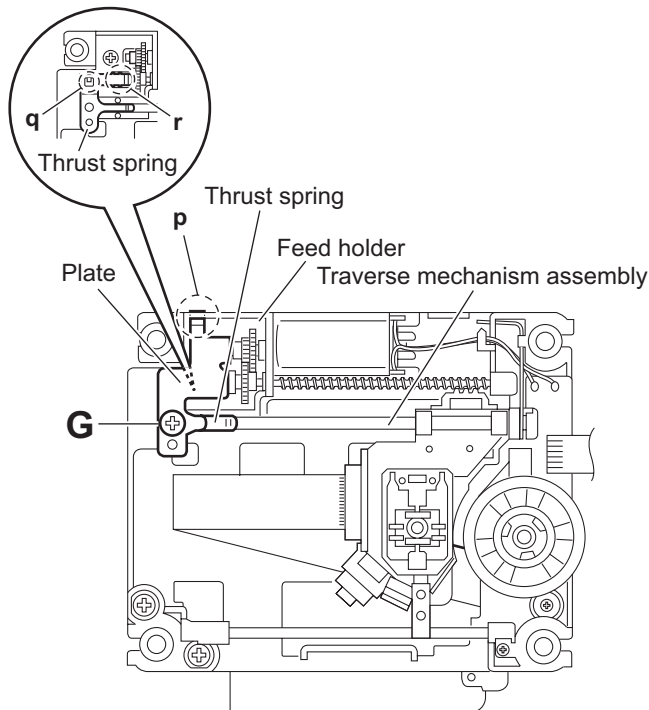

Fig.10
### 3.2.7 Removing the feed motor (See Figs.10 to 12)
- From the top side of the traverse mechanism assembly, remove the screw **G** attaching the plate and thrust spring. (See Fig.10.)
- Remove the engagement section **p** attaching the plate to the feed holder and remove the plate. (See Fig.10.)
- Remove the engagement sections (**q, r**), remove the thrust spring. (See Fig.10.)